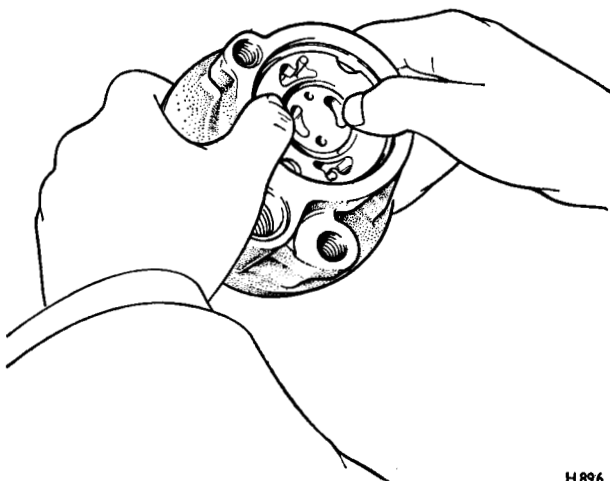

FIG. N18 FITTING THE PRESSURE PLATE
10. Apply pressure to the plate at its outer edges (see Fig. N18). Never apply great pressure or hammer the centre of the pressure plate as this will cause permanent distortion resulting in pump failure. The pressure plate will compress the seal by approximately $\frac{1}{8}$ in. (1.59 mm.).